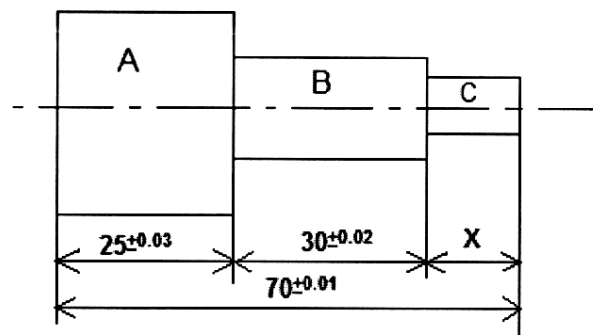

Figure 1
- d) A stepped as shown in Figure 1 is to be turned.